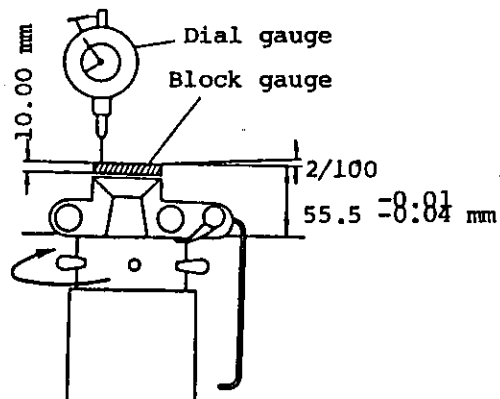

Fig. V-2
- Place the camera on a dial gauge (T2-202) and insert a block gauge between the camera and dial gauge. Rotate the camera. See Fig. V-2.